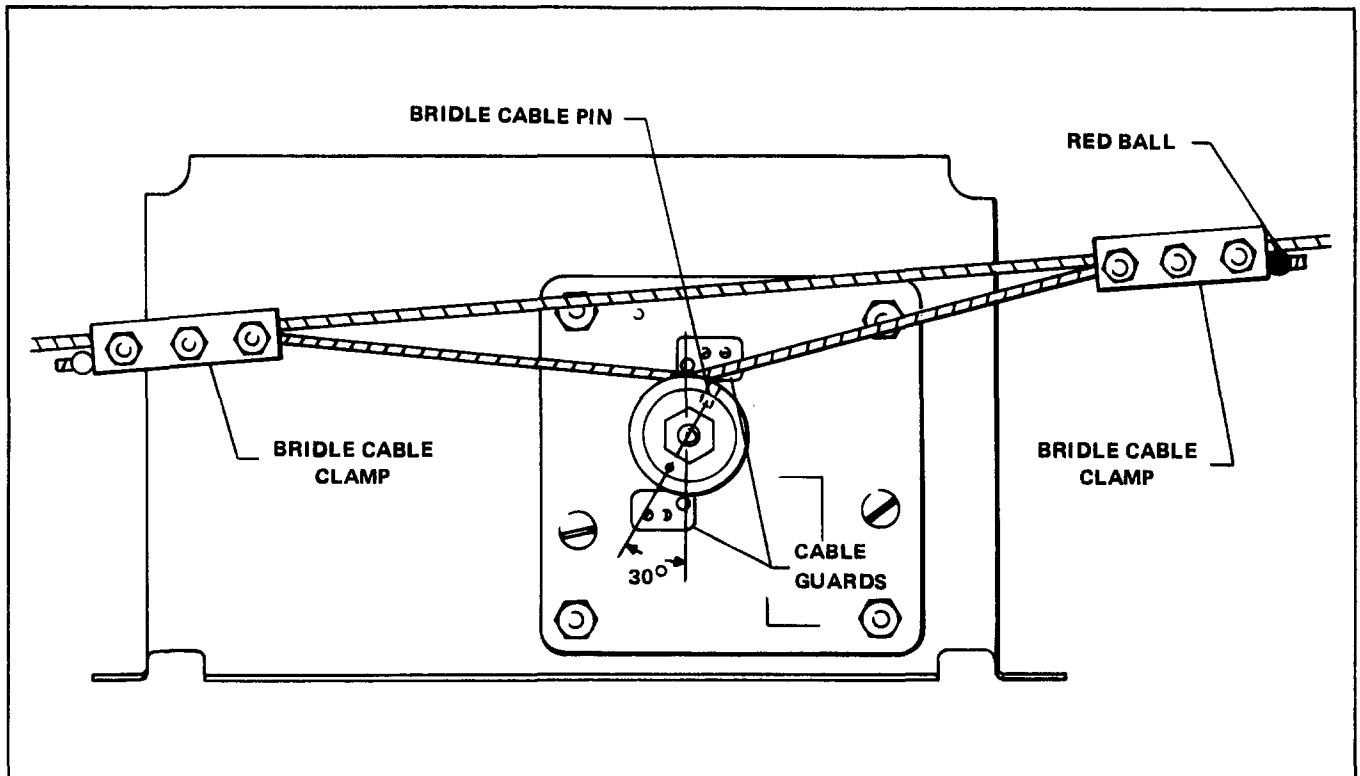

Figure 3-30. Roll Servo Installation, PA-34-200T and PA-44-180
**3-112. INSTALLATION OF ROLL SERVO. (PA-34-200T) (Refer to Figure 3-30.)**
- e. **REFER TO FIGURE 3-8 AND CHECK THAT CONTROL CABLE TENSION (Z) IS ADJUSTED TO 40 + 5 - 0 POUNDS PRIOR TO ATTACHING THE BRIDLE CABLE CLAMPS.** Ascertain area on cable where clamps attaches is clean, dry and free of all lubricants and anti-corrosive additives. Attach the bridle cable to the aileron balance cable. The bridle cable is drawn to the balance cable and attached with clamps at the previously painted locations on the balance cable. The longest portion of the bridle cable or the end with the red ball extends outboard toward the left side of the airplane. (Refer to Figure 3-30.) (Should the balance cable not be painted, position the control wheel in neutral and align the bridle cable pin, installed in the capstan, as shown in Figure 3-30.) Adjust the bridle cable clamps so the bridle cable tension (Y) is equal to the control cable tension +0 - 15% between the bridle cable clamps (X) as shown in Figure 3-8 without increasing the control cable tension from the bridle cable clamps outward. At no time shall the bridle cable tension be greater than the control cable tension between the two bridle cable clamps. Adjusting the bridle cable tension will lower the control cable tension between the two bridle cable clamps. Torque the bridle cable clamp bolts to  $55 \pm 5$  inch-pounds.